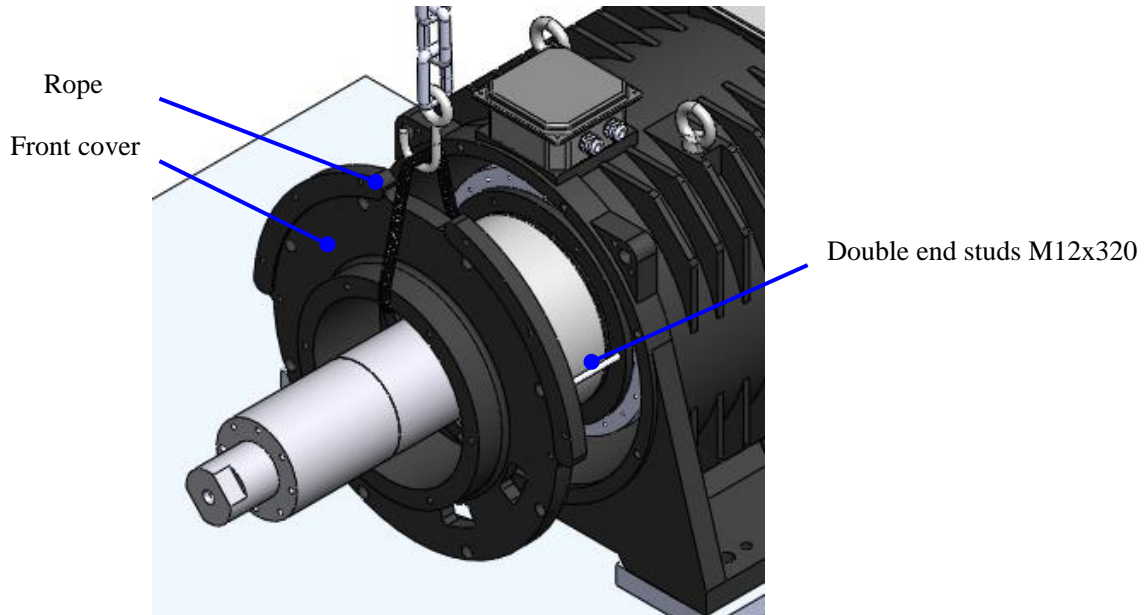

Figure 149: Hoist Front cover
6. Clean the Front cover and hoist it with the hoisting equipment, then fit it on the shaft through the double end studs (take aim at the mark made on removal). See Figure 149.